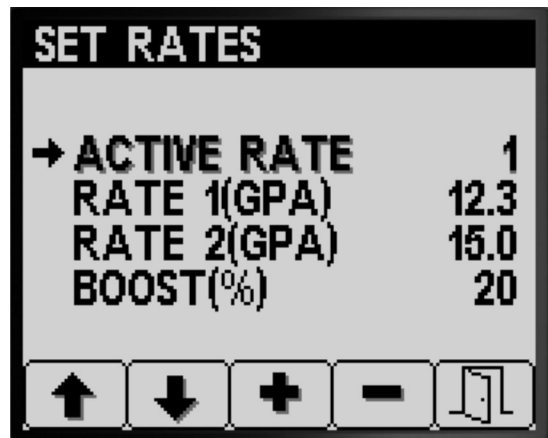

Figure 5
1. Press button 1 or 2 to navigate to the ACTIVE RATE option (Figure 5).
2. Press button 4 to select the ACTIVE RATE entry (Figure 5).
3. Press buttons 3 or 4 to set the programmed active rate to either RATE 1 or RATE 2 (Figure 5).